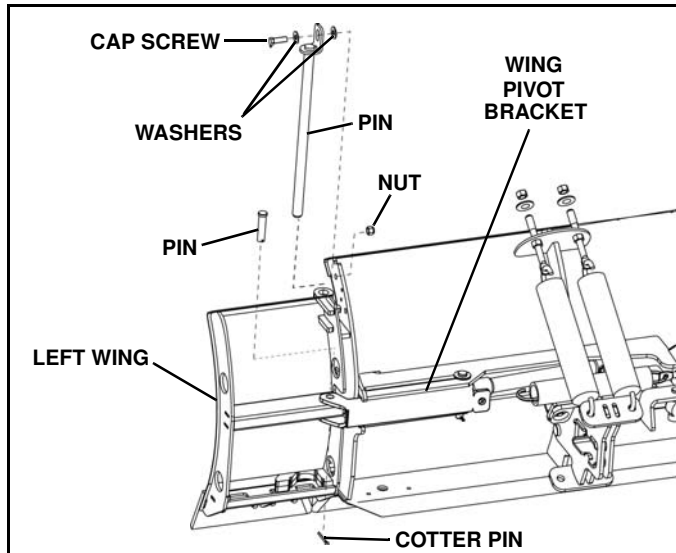

Figure 1-10
12. Align left wing with blade. Coat pin with grease and insert completely through blade and wing. Install a 1/2"-13 x 1-1/2" hex head cap screw, two 1/2" flat washers and 1/2"-13 lock nut to secure the pin. Snug the bolt, but do not torque. (See Figure 1-10).